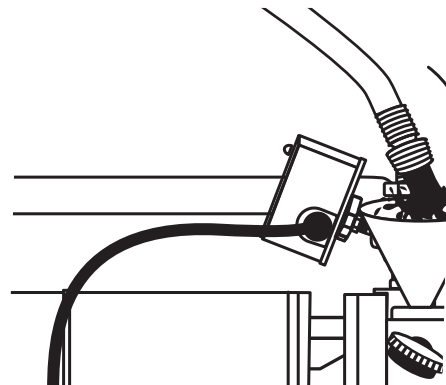

Figure 32 - Fill cavity with water
2. Fill pump cavity with water until full and replace priming plug. (Fig. 32)